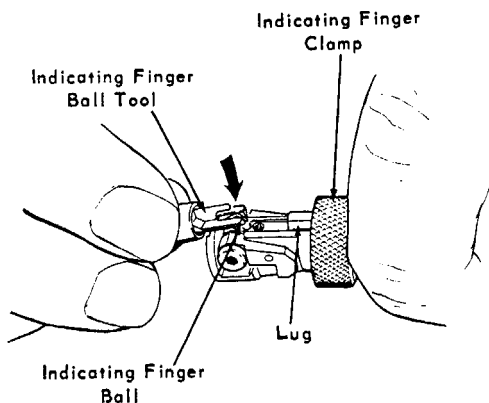

FIGURE 17
3. Push the blade of the Ball Tool under the Ball, through the slot in the Indicating Finger which intersects the ball socket. See Figure 17.
4. Pry up on the Ball until it snaps out of its socket. The Ball will be held between the blade and the Spring Clip of the Ball Tool (see Figure 17).